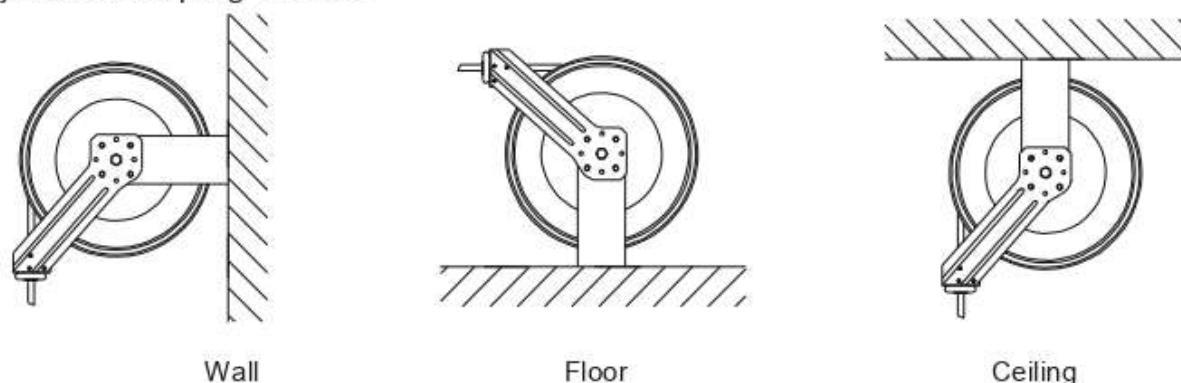

Figure 2.
1. The reel base has four 12.7mm (1/2") drilled holes for mounting on a suitable flat surface. Figure 2 is a template showing the correct location of the 4 mounting holes in the base.
2. The reel is supplied with a hose guide roller bracket. The bracket position may be changed depending on the reel mounting position. Figure 2 shows "Typical Mounting positions". If bracket position needs to be changed, do the following: